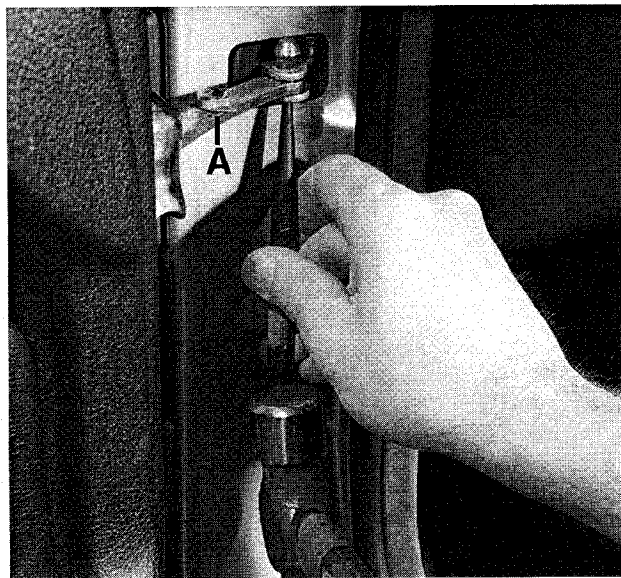

Fig. 3. Door check pin being removed. Note retainer clip (A) used on early models.
4. Remove retainer clip (early models only) from door check pin on body pillar. Drive out door check pin. See Fig. 3.
5. Remove retainer clip (early models only) from door check pin on body pillar. Drive out door check pin. Refer to Fig. 3.